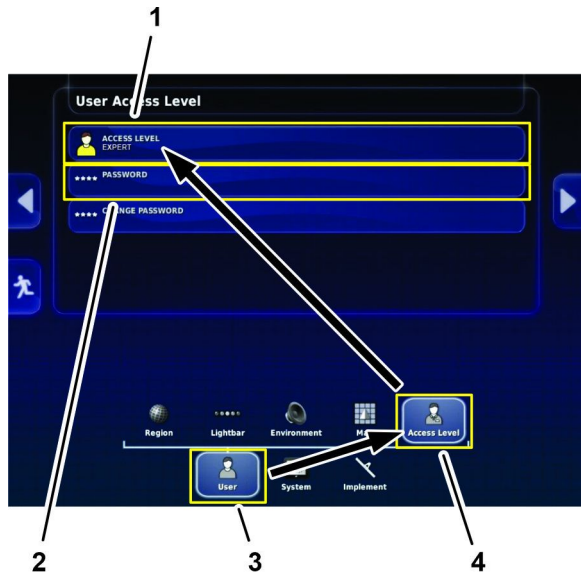

Figure 15
3. On the setup screen, press the USER icon and the ACCESS LEVEL icon (Figure 15).
4. In the user access level dialog box, press the ACCESS LEVEL icon, and in the drop-down menu, press the EXPERT icon (Figure 15).